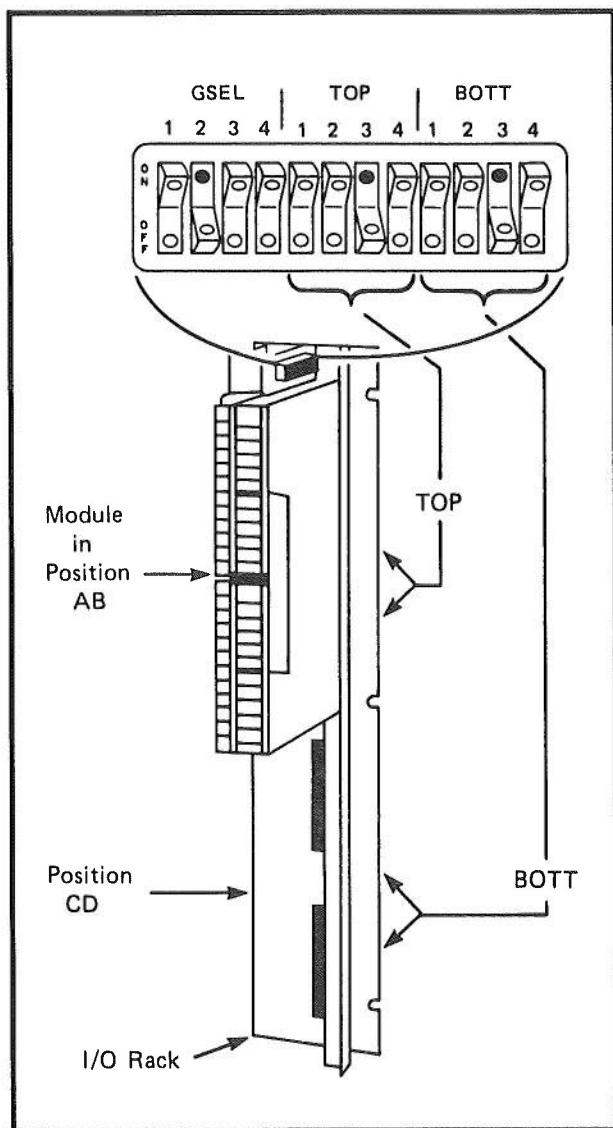

Figure 5 — Vertical Rack Switch Location
Step 4 — Refer to system drawings and determine which I/O rack and which position in the rack the module is to be placed. (Although a module can be placed in either the upper 2 positions or the lower 2 positions, it may not straddle positions B and C. See Figure 5.) Also, it is important that it be placed according to the user program reference scheme.
Step 4 — At the top right-hand side of **that** I/O rack, locate the rack switch assembly. (See Figure 5.) Note that it is divided into 3 groups of 4 rocker switches each. Locate those that make up the GSEL area.